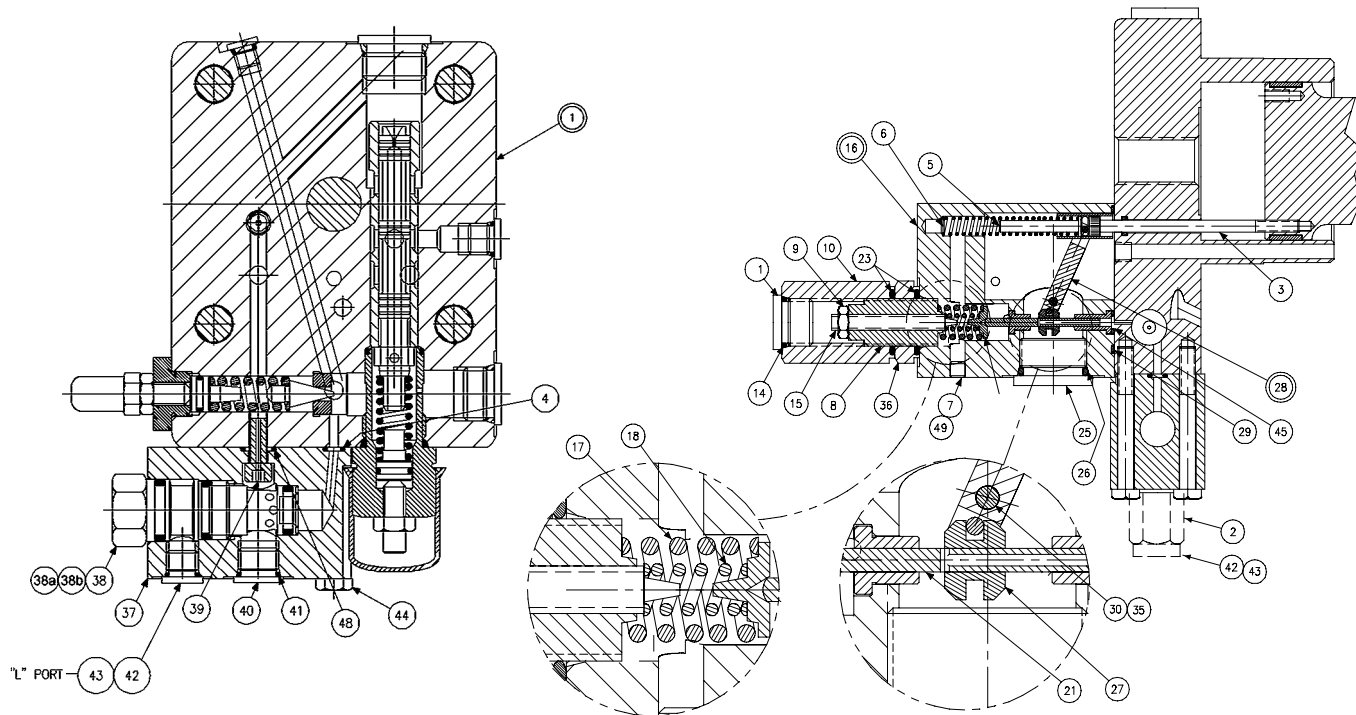

FIGURE 13
PARTS LIST FOR FIGURE 13
1. **See Figure 13.** Remove 2 screws holding torque limiter body (16) to cap assembly (1).
2. Remove all parts from torque limiter body (16) except pin (30) and arm assembly (28). It is not necessary to remove these parts unless broken or worn. Examine parts for wear or damage.
3. Remove screw (3). Examine head for excessive wear, and body for smooth sealing surface with O-ring.
5. Remove modulating valve (38) from body (37). Remove body (37) from cap assembly (1). Note plug (40) must be removed to remove special screw (39). Remove cap assembly (1).
2. Press seat (10) into bore squarely against shoulder in bore.
3. Install plug (12) and spool (18) into bore as shown. Install spring (11) over end of spool. Install O-ring (6) on stop (16). Lubricate and install into plug (15). Install plug (15) into cap. Install screw (3), nut (4) and cover (17).
4. Install O-ring (6) on seal piston (5).
5. Lubricate O-ring and install cone (8), spring (7) and seal piston into bore in cap (1), being careful that cone enters seat (10). Install remaining parts in body (1).
8. **See Figure 13.** Install block (37) on cap (1) with O-rings (4) and (48). Use special screw (39) through the block.
9. Install O-rings (38a) and (38b) on valve (38). Observe that backup ring on inside groove is toward the outside, the one on the middle groove is toward the inside, and the one on the outside groove is toward the outside. Lubricate and install valve (38) in block (37), being careful to avoid damaging the O-rings. Torque to 50 lb.*ft., 67,8 Nm.
10. For the P140 only, install O-ring (43) on adapter (2). Install adapter in block (37). Install plug (31) in adapter (35). For the P09 only, install O-ring (43) on plug (42). Install plug (42) in block (37).
11. Apply thread locking compound on threads of screw (3), lubricate the shank, thread through the cap into the control piston, and torque to 5 lb.*ft., 6,8 Nm
13. Press dowel (30) into body (16), through the link assembly (28), to 1/4", 6,35 mm below surface. Apply hydraulic sealant to threads of screws (35) and install over dowel (30).
14. While sleeve (27) is engaged into dowel on link (28), slide spool (21) into bore of body (16), and through sleeve (27). Spool (21) must move freely and easily at all positions of the link (28).
15. Assemble remaining parts per drawing. While spring retainer is engaging clevis pin (5) under dowel of link (28), slide the other opening of spring retainer over the top of the screw (3). Attach body assembly (16) to cap (1) and torque mounting screws to 75 lb.*ft., 102 Nm.